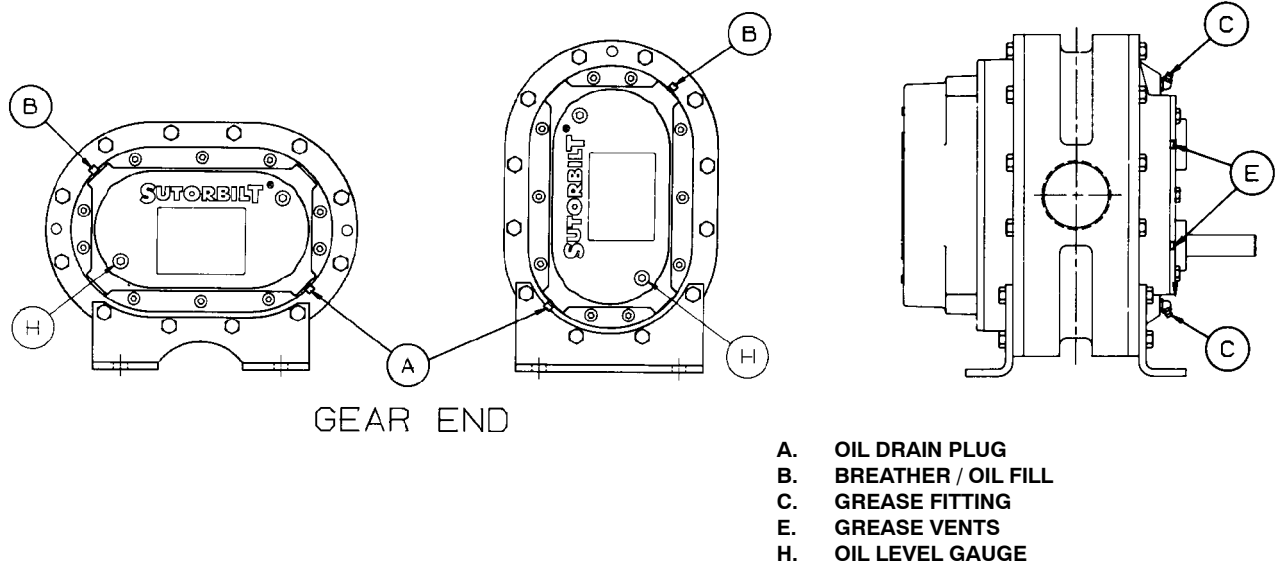

FIGURE 3 - LUBRICATION
**When changing mounting configuration, it may be necessary to reposition vent plug (B), and drain plug (A). Refer to FIGURE 3, page 6, for correct location.**
Refer to FIGURE 3. Remove the breather (B) from the gear cover. Add oil to the gear case until it reaches the center line of the oil level gauge (H). Secure breather (B) in its correct location.